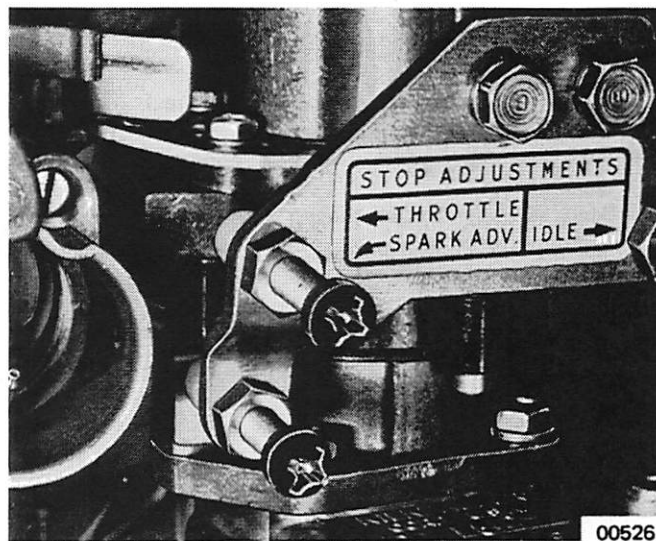

Figure 2. Spark Advance Adjustment
11. Hold magneto in this position and adjust spark advance stop screw to just touch pilot assembly and tighten locknut. (Figure 2)
9. Retard magneto against idle stop screw. (Figure 2)